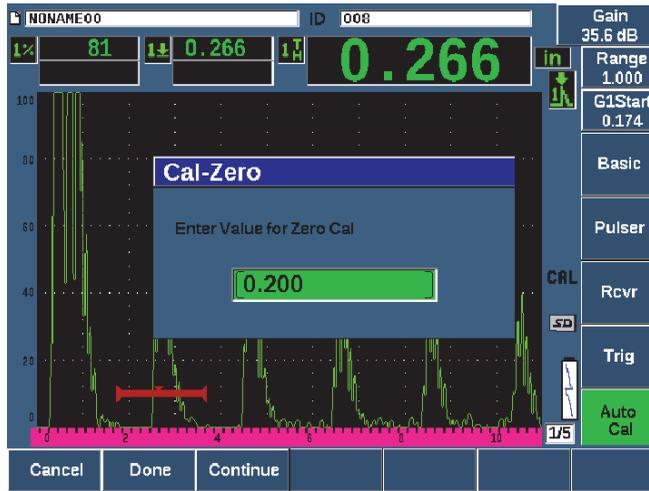

Figure 3-14 The Cal-Zero value
7. Adjust the displayed value to the appropriate thickness. For this example, the transducer is coupled to a 5 mm (0.200 in.) step (see Figure 3-14 on page 64).